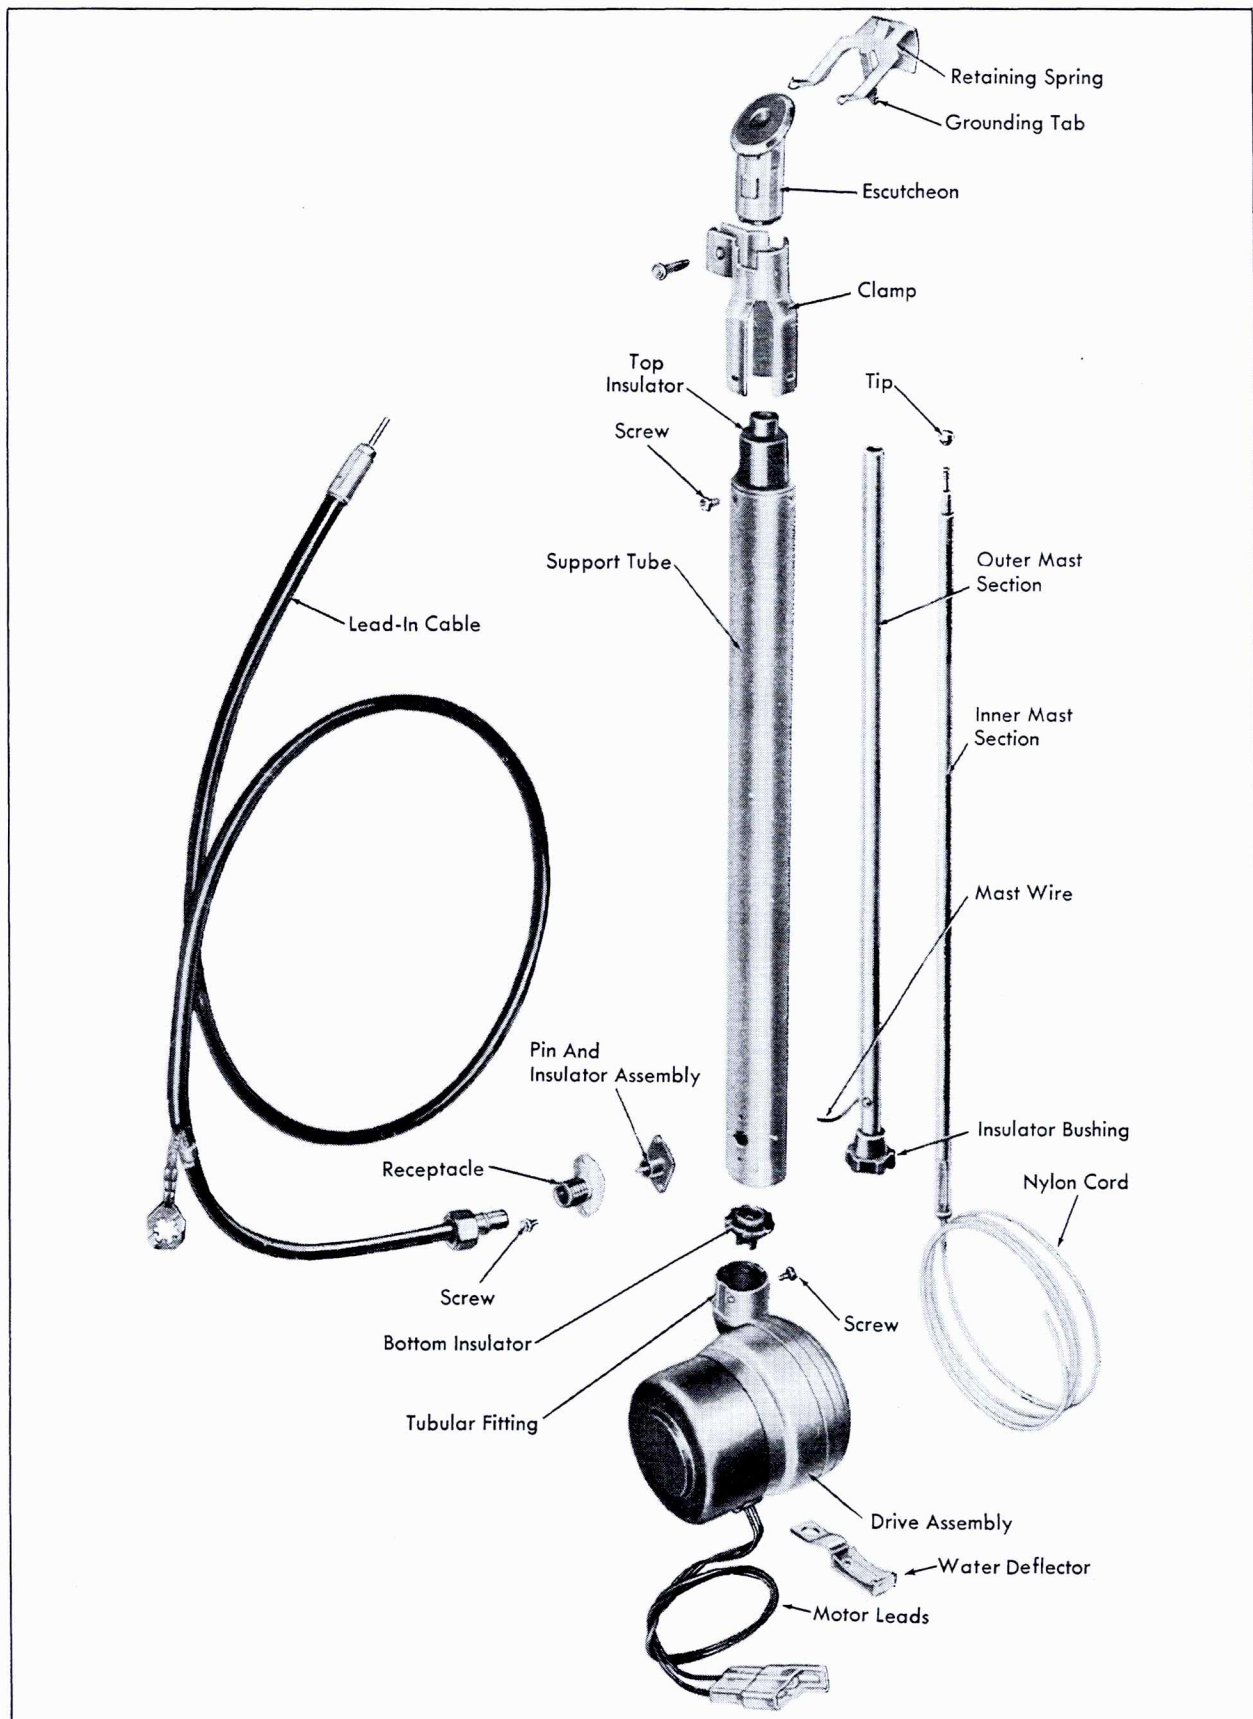

Fig. 15-7 Antenna Disassembled
a. Disassembly (Fig. 15-7)
b. Assembly (Fig. 15-7)